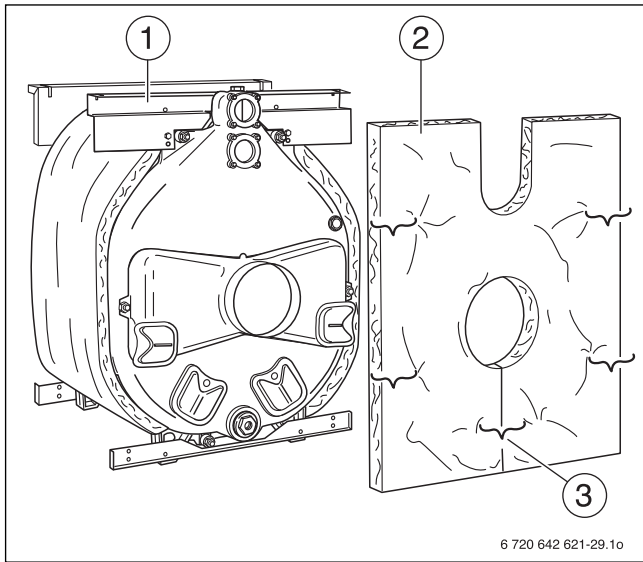

Fig. 35 Fitting the rear section thermal insulation
- ▶ Push rear section thermal insulation (Fig. 35, [2]) onto the flue outlet. The cut-out for the boiler flow and boiler return must point upwards.
- ▶ Hook the rear section thermal insulation to the top rear crosswise tie bar with two spring hooks (Fig. 35, [1]).
- ▶ Close the slot below the flue outlet with spring hooks (Fig. 35, [3]).